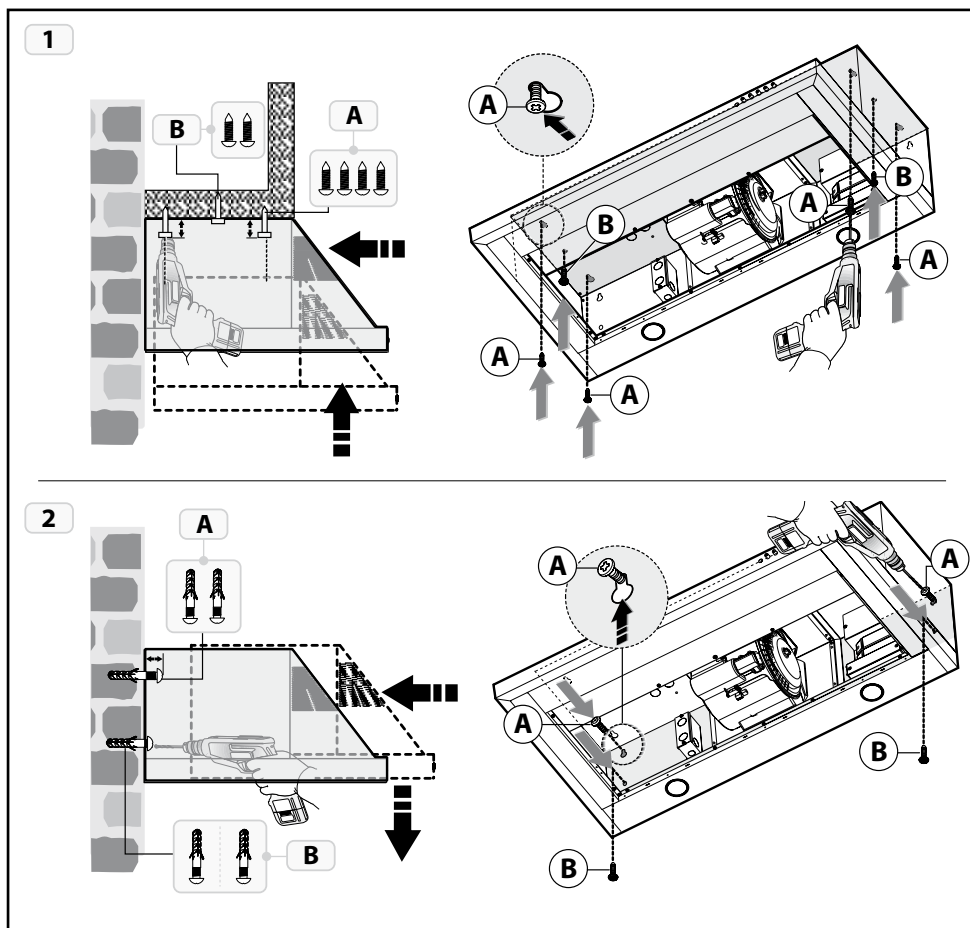

Fig.9
- 1 type installation Fig.9.**
- 2 type installation Fig.9.**